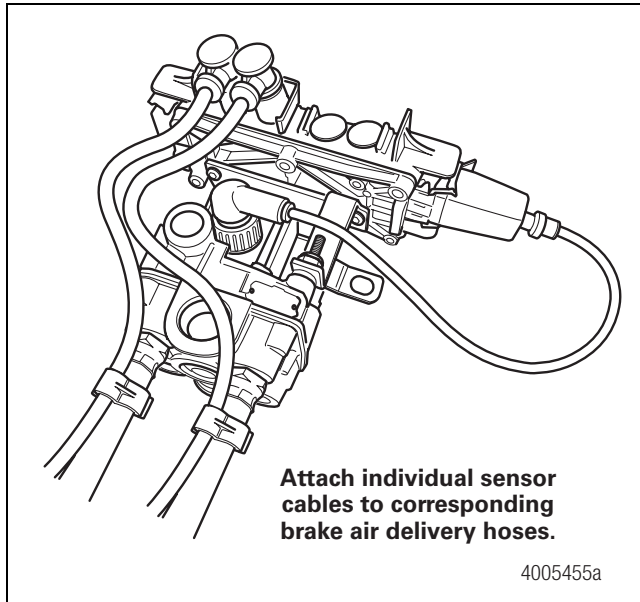

Figure 7
8. Create a strain relief to protect the sensor extension connector terminals. Without the strain relief, normal trailer jounce and vibration will cause the terminals to spread and loosen. Use a tie wrap or clip to secure the cable to the air hose as close to the fitting as possible. Figure 7.